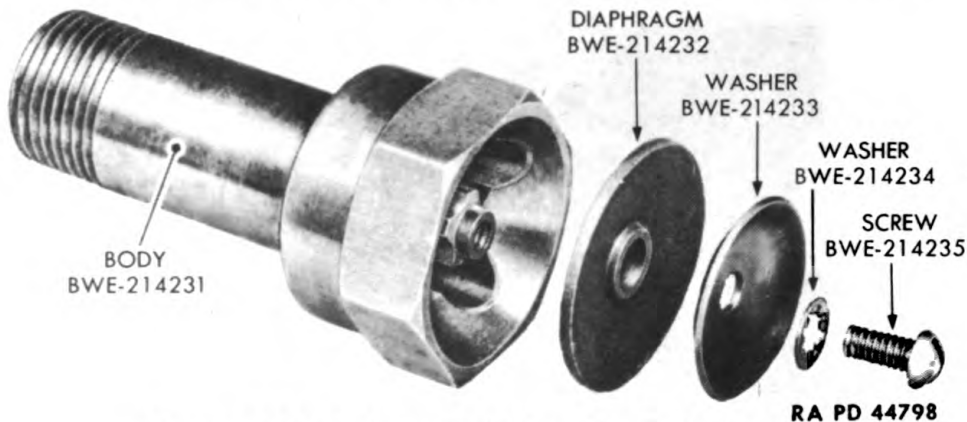
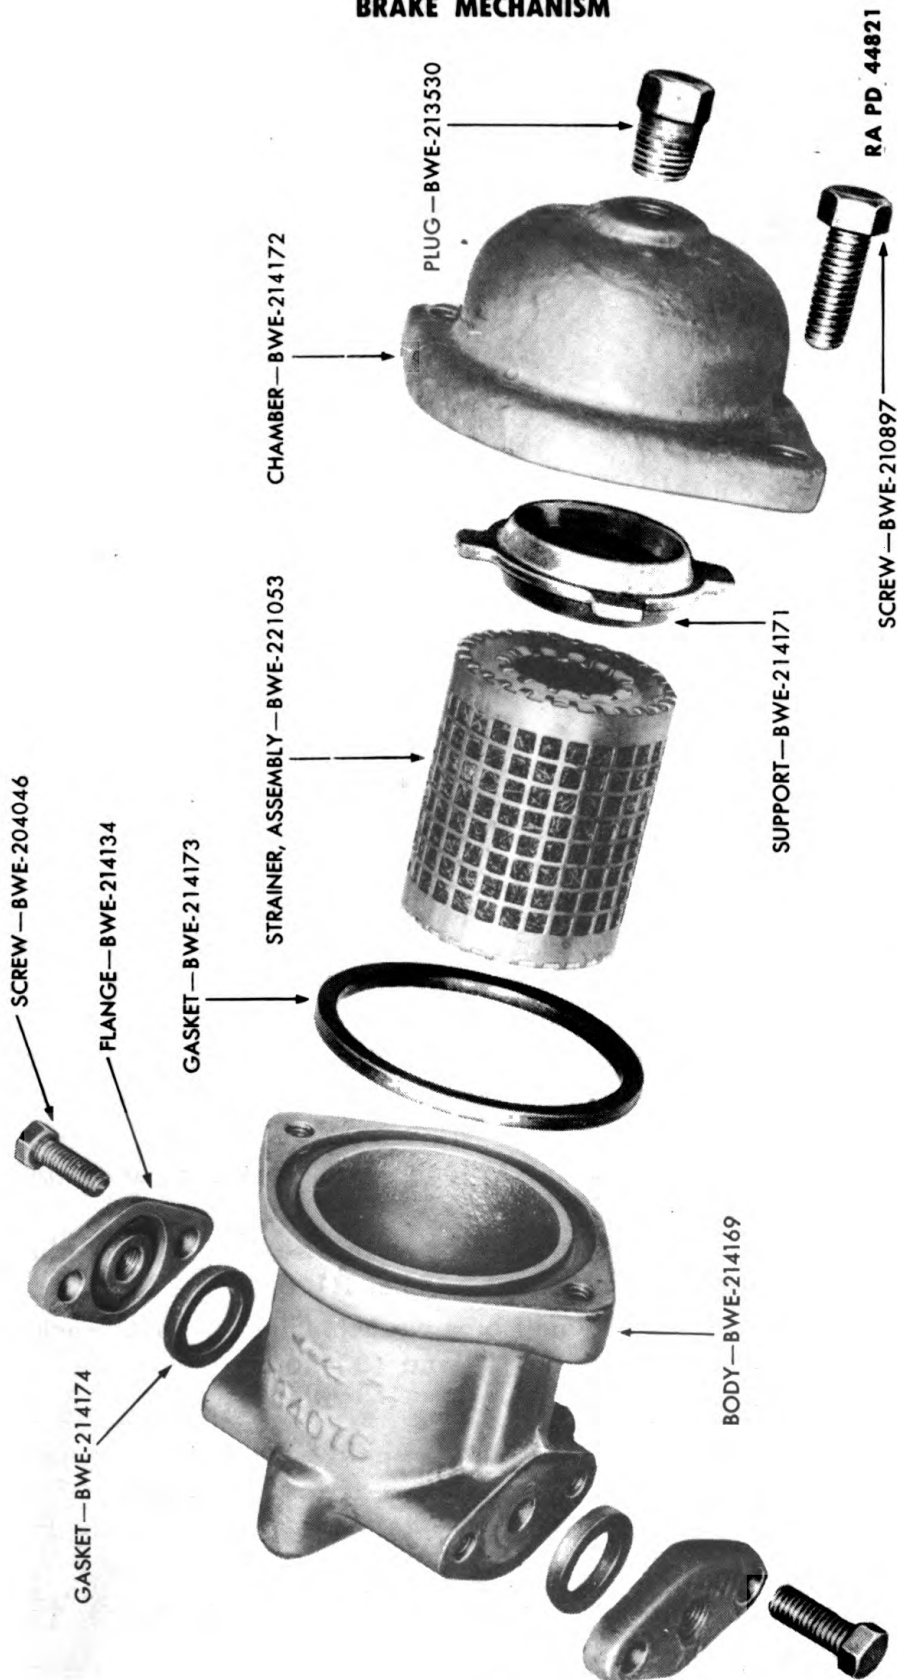

Figure 289—Exhaust Fitting—Exploded View
Figure 290 — Air Filter — Exploded View
b. Disassembly Exhaust Fitting (fig. 289).
(1) Remove screw BWE-214235 and lock washer BWE-214234 from body BWE-214231.
(2) Lift diaphragm washer BWE-214233 and diaphragm BWE-214232 from body.
c. Disassemble Air Filter (fig. 290).
(1) Remove two screws BWE-210897 from chamber BWE-214172 and body BWE-214169. Remove chamber.
(2) Remove plug BWE-213530 from chamber.
(3) Remove support BWE-214171 and strainer assembly BWE-221053 from body. Remove gasket BWE-214173 from body.
(4) Remove two screws BWE-204046 from flange BWE-214134. Lift flange and gasket BWE-214174 from body.
(5) Repeat procedure as described in step (4) above to remove the other flange and gasket.